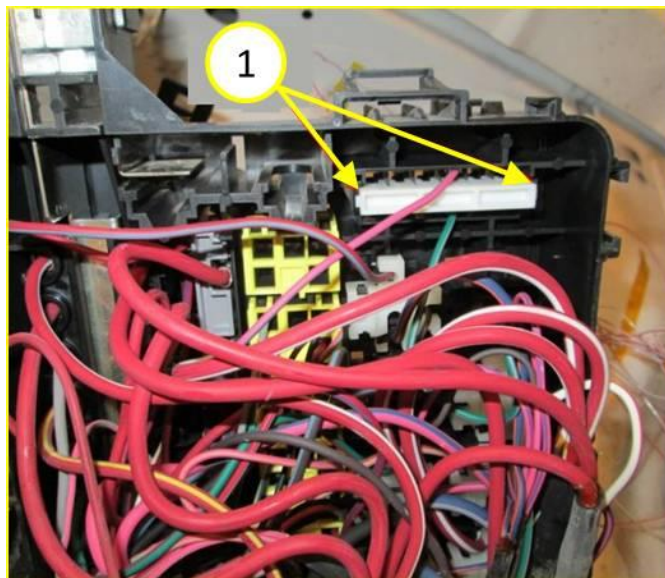

Fig. 2 Release Tabs On White Terminal Lock
8. Remove and discard the white plastic terminal lock see (Fig. 2).